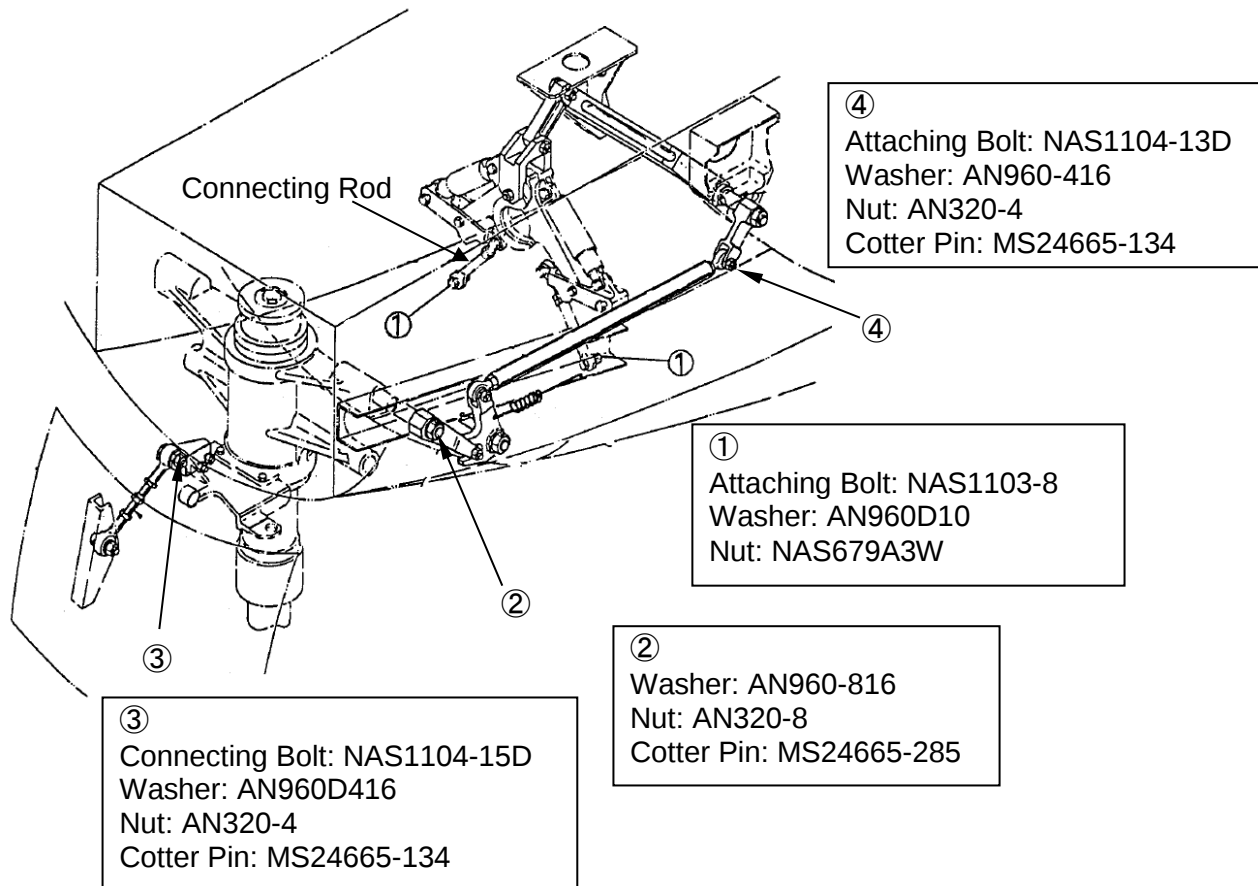

Figure 2: Nose Landing Gear Door Disconnect
- (8) Remove NLG Fwd Door Rod End connecting bolt. (Figure 2 ③)
- (9) Carefully remove NLG Aft Doors connecting Rod bolts and Door Mechanism connecting bolt which are under tension. (Figure 2 ①, ④)
- (d) Trunnion LH Pin 016A-39271 and Door Actuating Arm mating Splines markings (cotter pin and attaching nut must be removed). (Figure 2 ②)